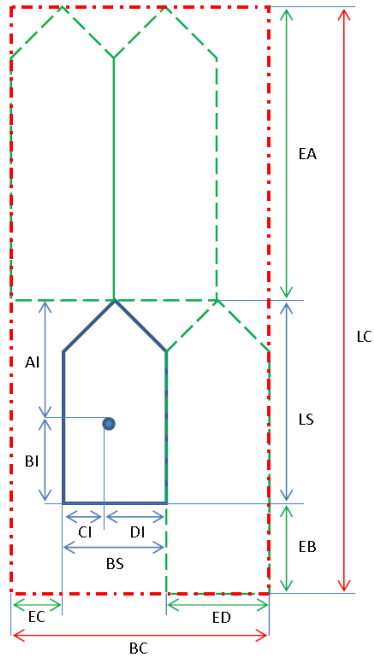

Figure 18: Physical location of GNSS sensor on the ship and in a convoy
- b. Visible if Inland Waterways is enabled, see also Figure 18 on page 23.
- c. Visible if Status is set to "Power-Driven Vessel Towing Alongside", see also Figure 18 on page 23.